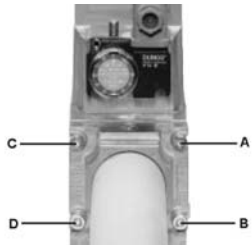

Fig. 6
1. Loosen screws A and B **do not** unscrew (Fig. 6 - Fig. 7).
2. unscrew screws C and D (Fig. 6 - Fig. 7).